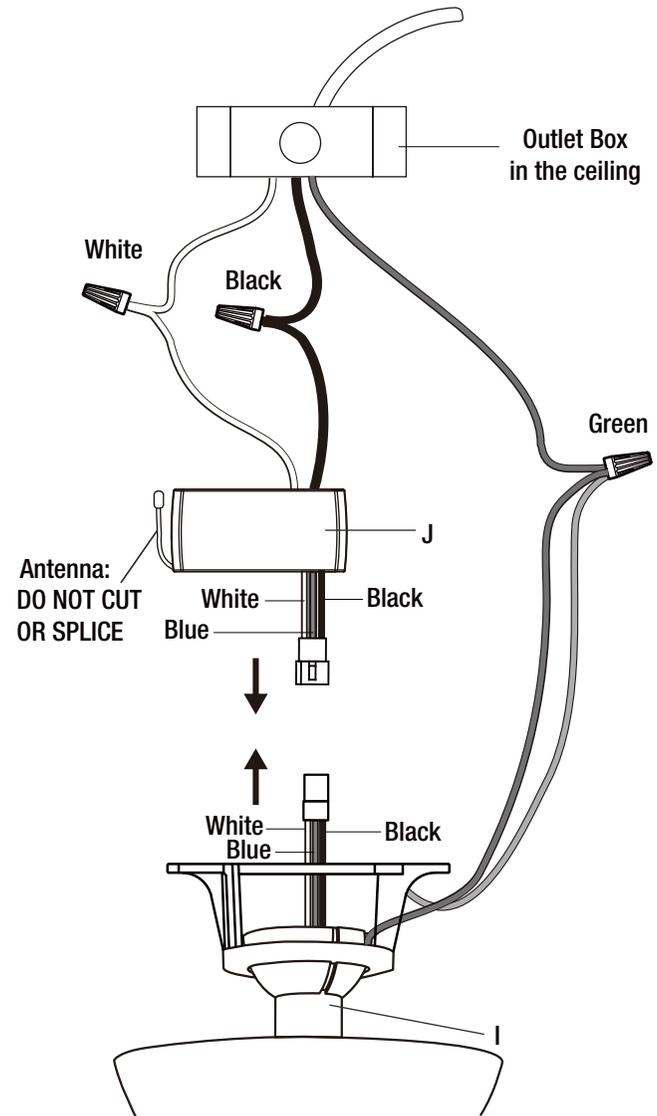

Figure 11
- Connect the receiver (J) to the fan wires by inserting the molded adaptor plug from the receiver (J) to the molded adaptor plug on top of downrod assembly (I), as illustrated in Figure 11.
- Use wire connectors (BB) to connect the receiver (J) and fan wires to the supply wires from outlet box according to Figure 11 and the following instructions: